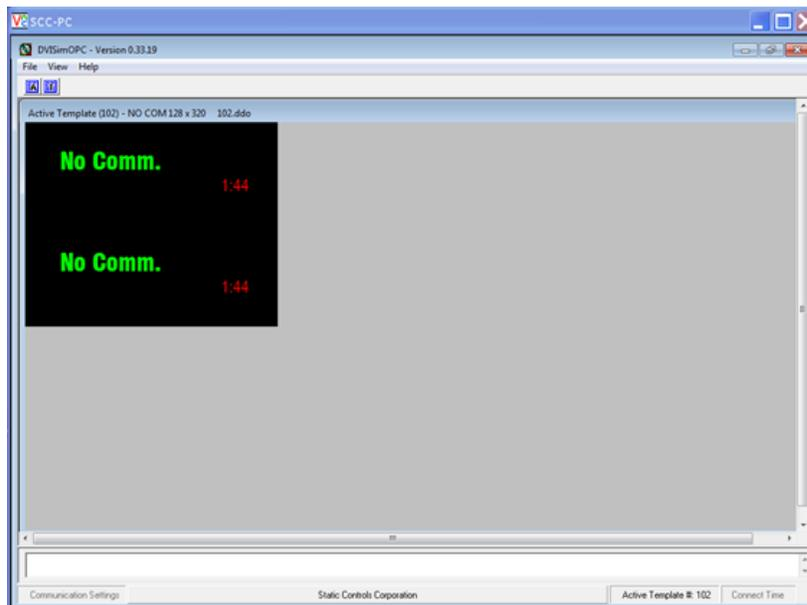

Figure 5 – VNC Viewer Software App, DVISimOPC Running on Sign Windows Desktop
4.4.1 Once connected to the sign using VNC Viewer, you have remote control access of the Windows desktop running on the computer in the sign. You operate it just as you would any PC. The first time you establish this connection, you will see the program DVISimOPC or DVIShow running, as illustrated in Figure 5 below.